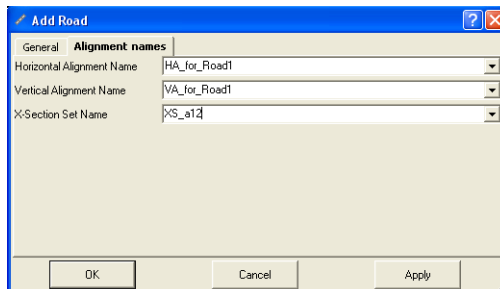

Figure 9-32. Add Road Dialog Box- Alignment names Tab
3. In the *Alignment names* tab of the **Add Road** dialog box, the user can select a pre-defined horizontal alignment, vertical alignment and cross-section template to use for designing the road (Figure 9-32)